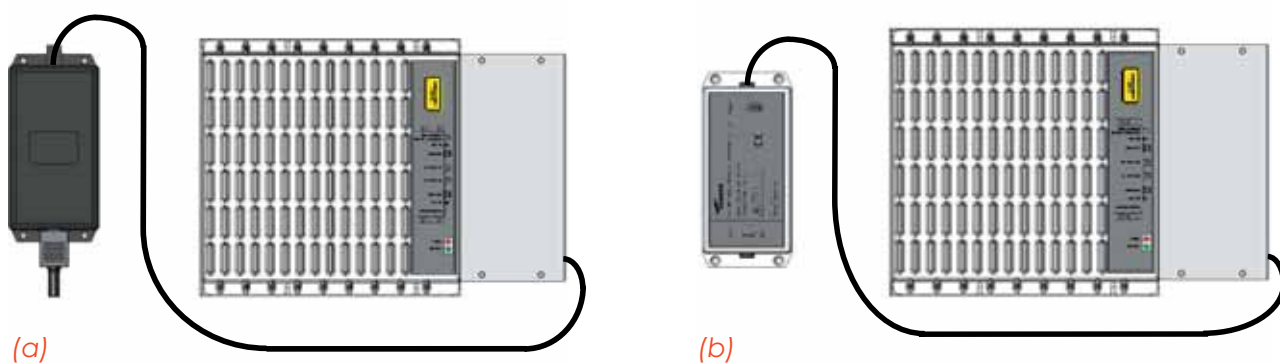

Figure 3.3.8:
- Under no circumstances should any piece of equipment be affected by the heat created by any other piece. The Remote Unit and its external power supply should be mounted so as to avoid reciprocal heating. Side-by-side configuration is suggested (Fig. 3.3.8 a,b)
in a vertical position with the power socket downwards (see Fig. 3.3.8 a,b).
8. If the Remote Unit is -48 Vdc powered, use the -48 Vdc plug (included) in order to connect the external adapter to the -48 Vdc mains (Fig. 3.3.8 b). If the Remote Unit is 90/264 Vac-powered, fix the 90/264 Vac plug (included) onto a power cord (not included), and use this cable in order to connect the external adapter to the mains (Fig. 3.3.8 a).